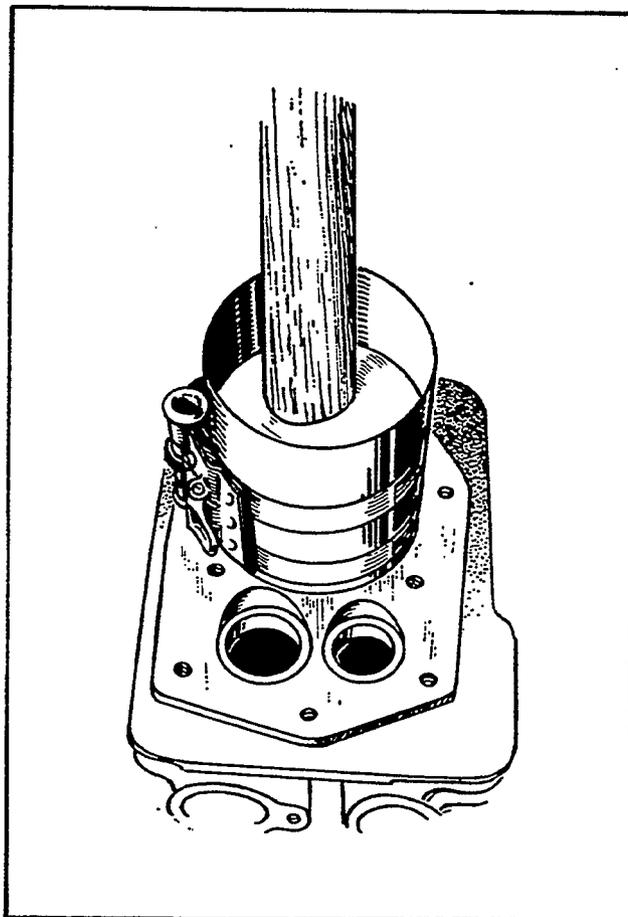

FIGURE 44. INSTALLING PISTON
2. Lubricate the number one piston assembly and inside of the cylinder. Compress the rings with a ring compressor as shown in Figure 44.
4. Tap the piston down into the bore with the handle end of a hammer until the connecting rod is seated on the journal (Figure 44). Install the bearing cap on the rod with the witness marks and stamped reference numbers matching the marks on the rod. Install and tighten the bolts evenly in steps to the specified torques.